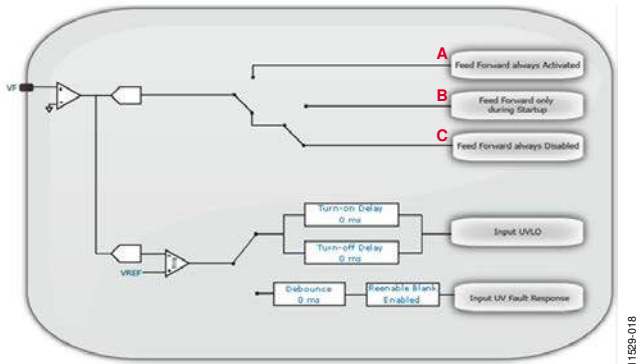
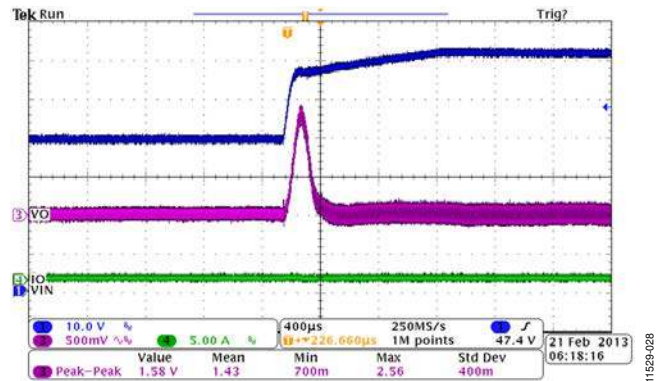
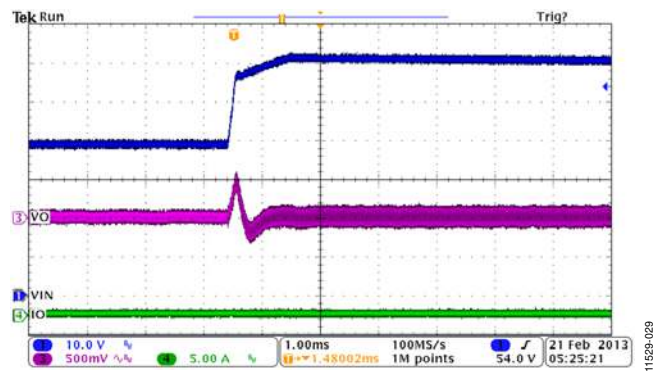

Figure 18. Feed Forward Selection Option
Figure 28. Input Voltage Transient Response with Feed Forward Disabled
Figure 29. Input Voltage Transient Response with Feed Forward Enabled
2. Select the type of prebias start up as shown in Figure 18:
By proper selection of the input voltage feed forward options as shown in Figure 18, the input voltage feed forward can be evaluated in different ways. Figure 28 gives a result of the input voltage transient with the feed forward being disabled (Option C—**Feed Forward always Disabled** in Figure 18). While Figure 29 gives a result of the input voltage transient with the input voltage feed forward being enabled (Option A—**Feed Forward always Activated** in Figure 18).
- Select the input voltage signal to trigger the VIN_LOW flag or the VIN_UV_FAULT flag in the feed forward selection window shown in Figure 18.